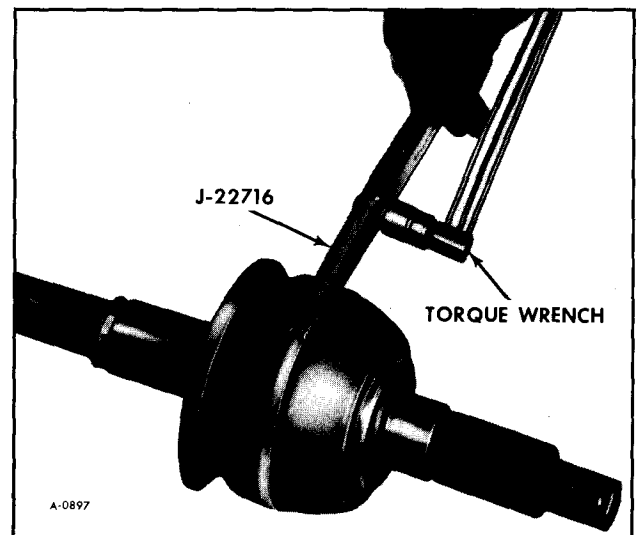

Figure 16—Tightening Band
9. Install retaining ring into inner race with tangs protruding into relieved area. (figure 16)
f. Place a wrench on nut and draw band up tight, then torque nut to 65 in. lbs. (See figure 16). After desired torque is obtained, turn tool over to